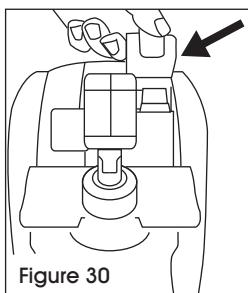

Figure 30
3. Flip up cover of battery compartment in upper right side. (See Figure 30)